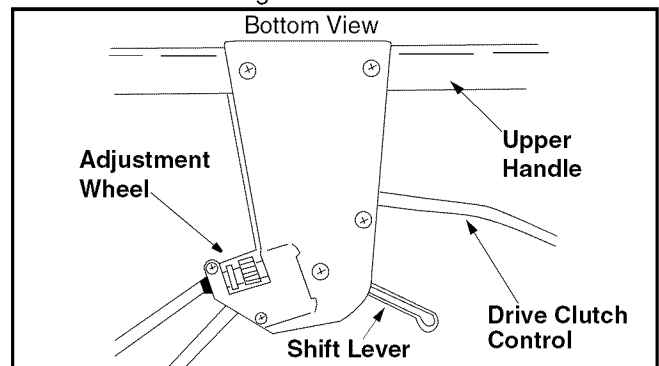

Figure 11
- To resolve the above problems, rotate the adjustment wheel with your fingers: clockwise to tighten the cable and counter-clockwise to loosen the cable. See Figure 11.
- Start engine and place shift lever in the sixth speed position. Refer to Figure 11.